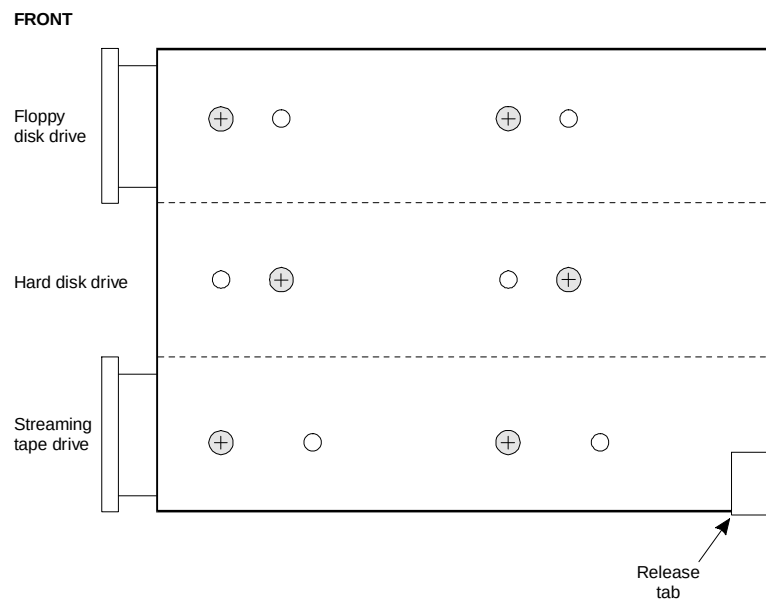

Figure C-24. Location of Tape Drive Securing Screws
3. Remove the two screws on each side of the drive housing that secure the tape drive. See Figure C-24.